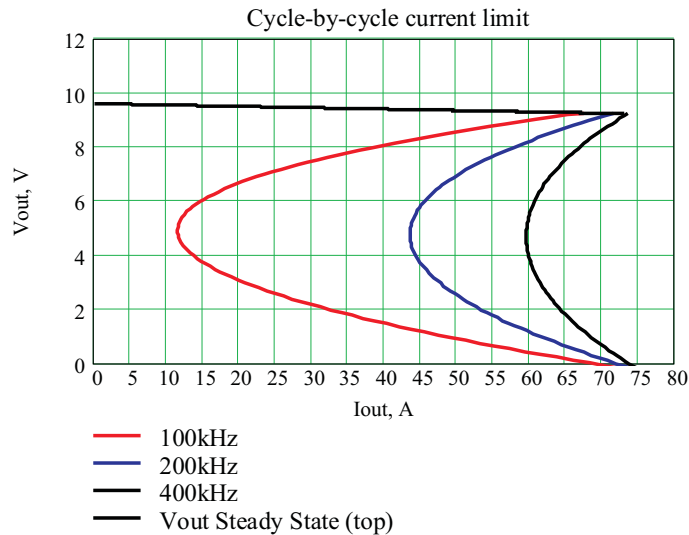

Figure 39. Output Voltage at Cycle-by-Cycle Current Limit
Figure 39 shows the output voltage as function of the average load current limited by the cycle-by-cycle current limit threshold after substituting (9) into (10). These plots are generated for the following conditions: $V_{IN} = 48\text{ V}$, $N_{TR} = 5$, $L_O = 0.1\ \mu\text{H}$, $L_m = 75\ \mu\text{H}$, $I_{O(lim)} = 73\text{ A}$, $R_{pr} = 25\ \text{m}\Omega$ and $R_{SEC} = 4\ \text{m}\Omega$ at $F_{SW} = 100\ \text{kHz}$, $200\ \text{kHz}$ and $400\ \text{kHz}$. This fold back type of behavior limits the start-up capability of unregulated IBC. One can see that at 100-kHz switching frequency and 0.5 duty cycle (i.e., $V_O \approx 5\text{ V}$), only about 11.5 A average current is available to charge the output capacitor while at 400 kHz, the charge current can be as high as 60 A. The plots in Figure 39 show the required average charge current reflected to the primary side of the converter with $N_{TR} = 5:1$ for different output capacitor values depending on the selected soft-start time, which do not count extra current drawn by the load itself. Therefore the significant output inductor current ripple not only can trip the peak current mode control current limit circuit to reduce the average output inductor current available to charge the output capacitor, but also can cause the hiccup or latch off of the converter to prevent it from starting at all. Increasing the current limit threshold to allow the normal start up of the converter can cause potential overstress if for some reason the load exceeds its nominal current during the steady state operation.